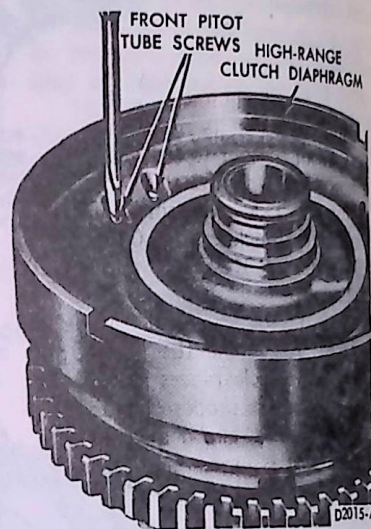

FIG. 55 Front Pitot Tube Screw Removal and Installation
16. Remove the two frontpitot tube mounting screws and lock washers from the front surface of the diaphragm to allow the pitot tube to drop into the front governor collector ring (Fig. 55). Lift the diaphragm from the assembly and remove the two hook-type seal rings from the rear of the diaphragm. Remove the pitot tube from the collector ring.
16. Place the pitot tube in the governor collector ring with the intake port toward the outer diameter of the ring. Install the high-range clutch diaphragm over the high-range clutch. Make sure the diaphragm enters the high-range clutch housing without damaging the hook-type seal rings at the rear of the diaphragm. At the same time, direct the pitot tube guide bolts through the pitot tube mounting screw holes (Fig. 55).